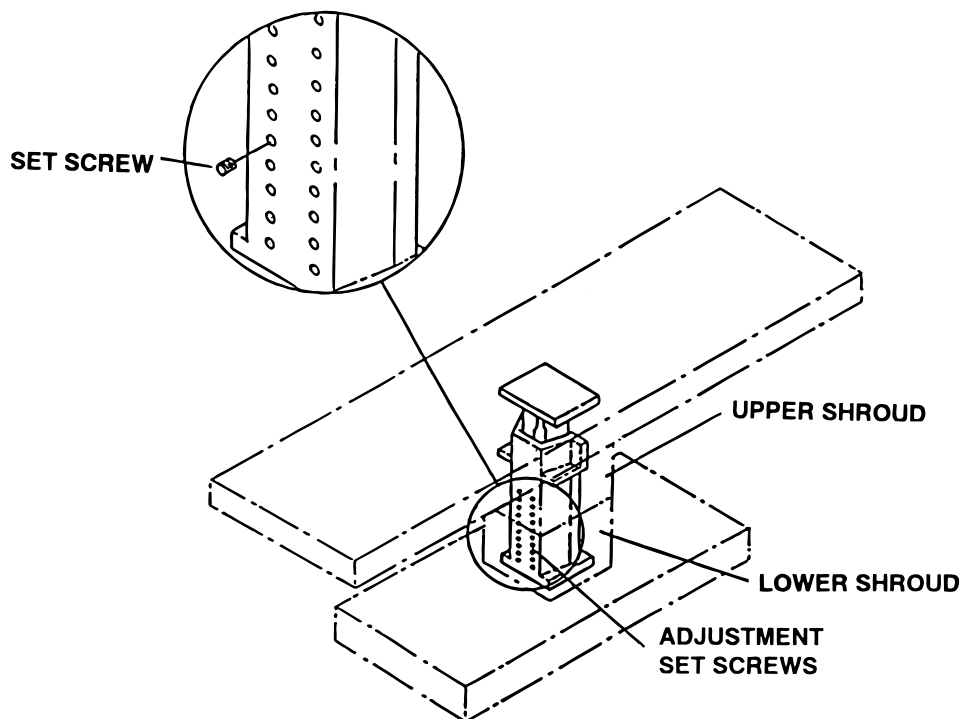

Figure 2-5. Elevation Column Adjustment
2. Remove the screws which retain the lower shroud to the base. See figure 2-5.